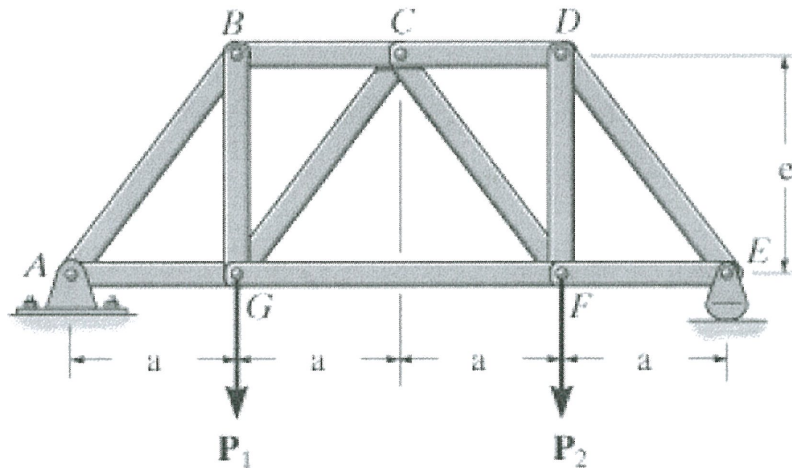

FIGURE Q4
- Q4** **Figure Q4** shows a simple structure. Given $P_1 = 20\text{kN}$, $P_2 = 10\text{kN}$, $a = 1.5\text{m}$ and $e = 2\text{m}$.